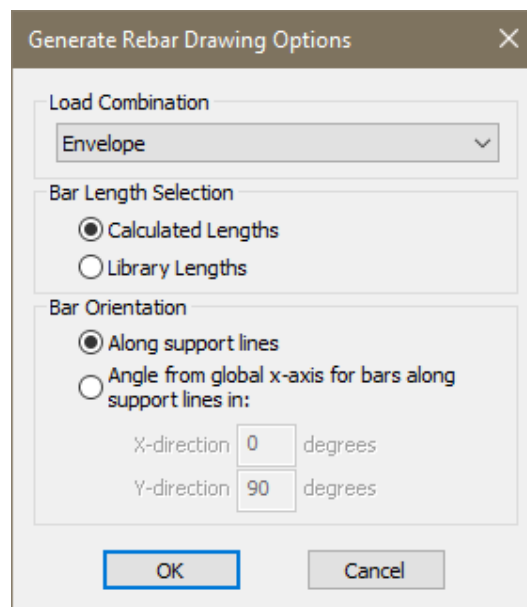

Figure 8-84
- Go to *Floor Design* → *Rebar* and click on the *Calculated Rebar Drawing*  icon this will bring up the *Generate Rebar Drawing Options* window shown in **FIGURE 8-84**.